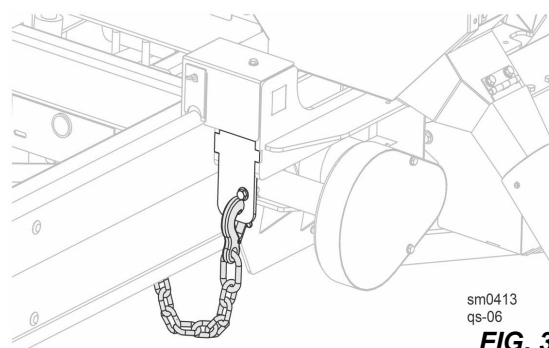

FIG. 3-5
- Unhook the carriage safety chain, located at the bottom of the vertical mast. See FIG. 3-5.